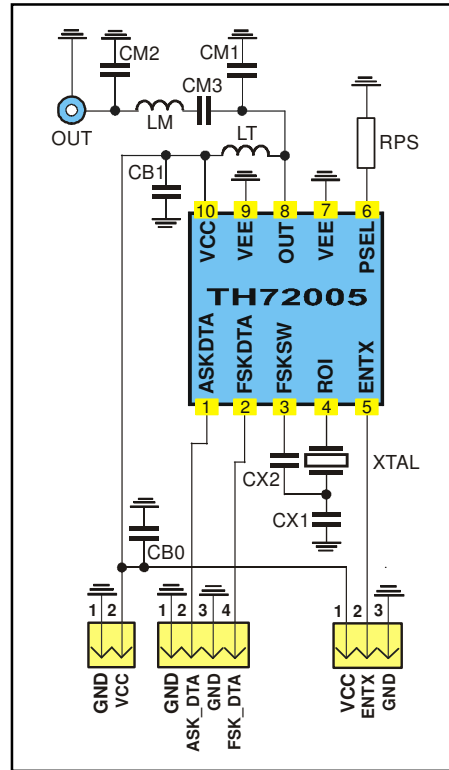

Fig. 18: Test circuit for FSK and ASK with 50 Ω matching network
typical values at  $T_A = 23\text{ °C}$  and  $V_{CC} = 3\text{ V}$ ; test circuit shown in Fig. 18,  $f_c = 315\text{ MHz}$
- Data according to test circuit in Fig. 18
### 6.1 Test circuit component list to Fig. 18